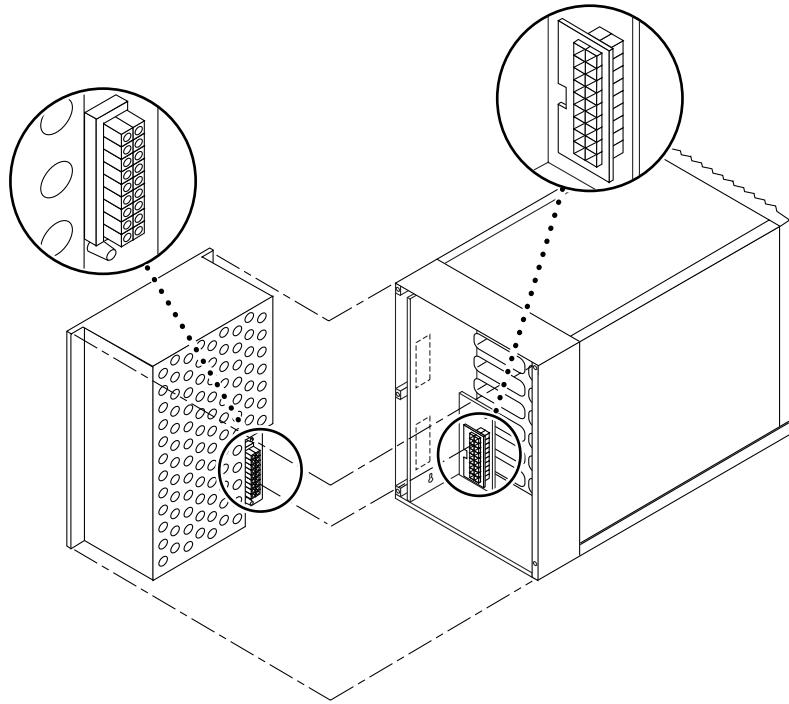

FIGURE 2-6 Lining Up the Power Supply Connector Pins
7. Carefully pull the power supply out from the unit using the pull strap and set it aside (FIGURE 2-6).
The connector at the back of the power supply connects to the backplane (FIGURE 2-6). Because of this connection, the power supply will not slide out of the unit easily. Slowly work the power supply loose from the connector as you remove it from the enclosure.
1. Align the power supply at the back of the unit so that the connector plug on the power supply lines up with the connector on the backplane FIGURE 2-6).